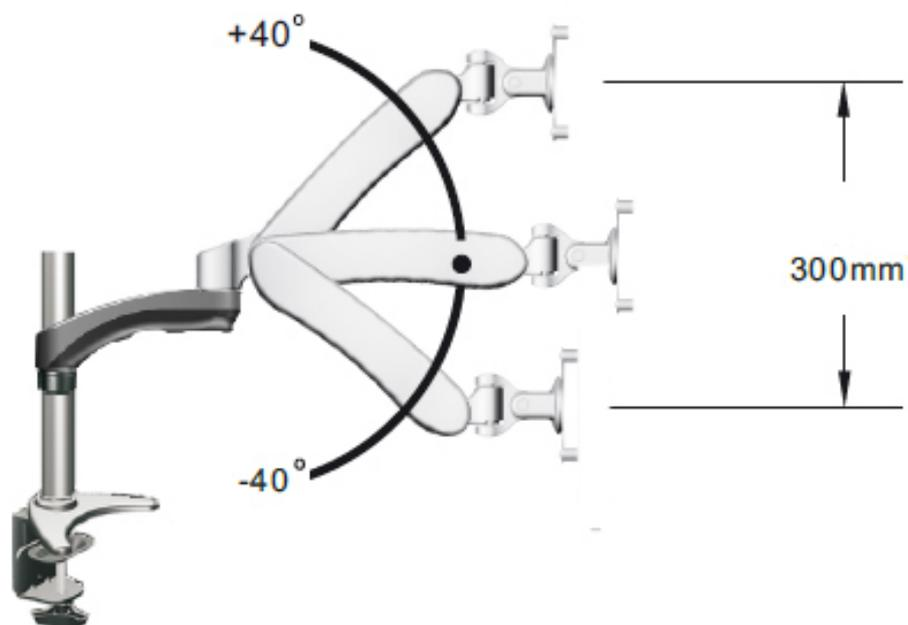

Figure 7
5. This production can be lift up and down as shown. (See Figure 7). If this product tends to automatically move to side, it may be required tension adjustment on the Articulating Arm to suit your microscope arm swing to side position. This can be done by using Hex Allen Wrench 2.5mm supplied. (See Figure 8).